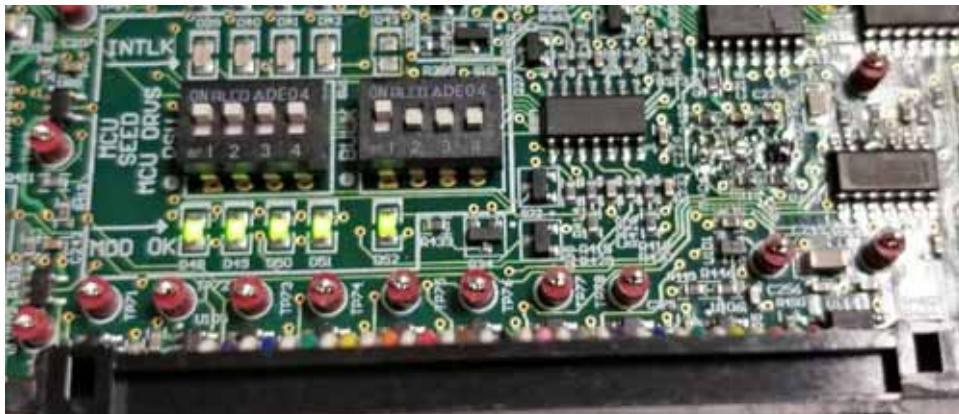

Figure 2.1-51. DIP Switches on Controller Board
- Ensure the Figure 2.1-51 "DIP Switches on Controller Board" board are set up correctly